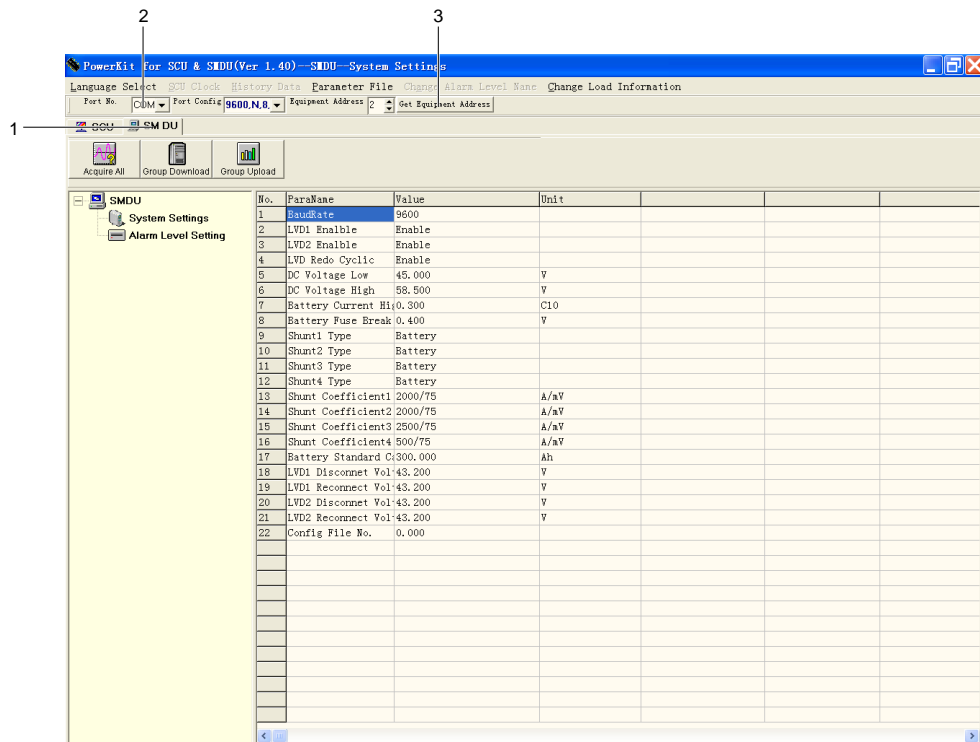

Figure 7-5 Get Equipment Address
5. In Figure 7-5, click **SM DU** in the top left corner (illustrated '1'), input the port no. (illustrated '2'), and click **Get Equipment Address** (illustrated '3').